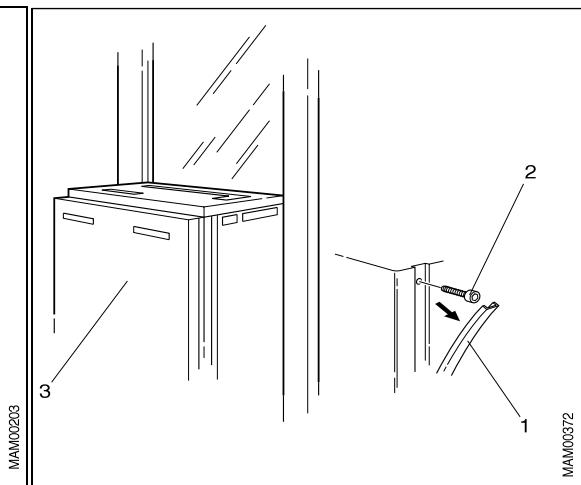

Fig. 4: Generator front covers
- Generator front cover \(3/Fig. 4 / p. 15\).